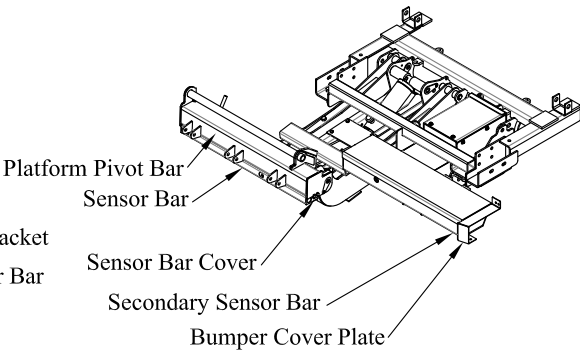

Figure 4: Backup Bar Kit.
1. **Bolt** sensor bar to bottom of platform pivot bar using provided 5/16" bolts, washers, lock washers, and nuts (Figure 4).
Note: Aluminum spacers are used to shim secondary sensor cover flush with bumper cover plate (Figure 4).
6. **Bolt** the secondary sensor bar to the passenger bumper cover plate with provided 3/8" bolts, washers, lock washers, and nuts (Figure 4). **Drill** holes in bumper cover plate if needed.